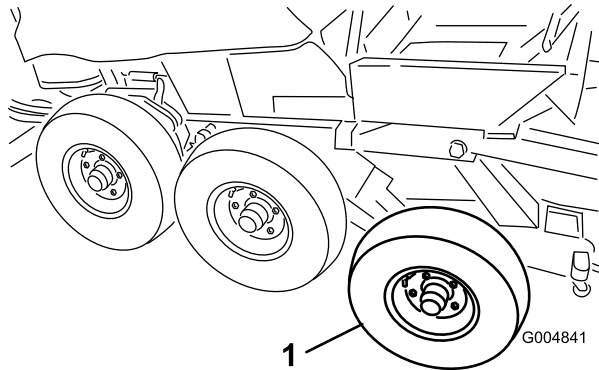

Figure 47
19. Remove the front and center tires from the winter assembly (Figure 47).